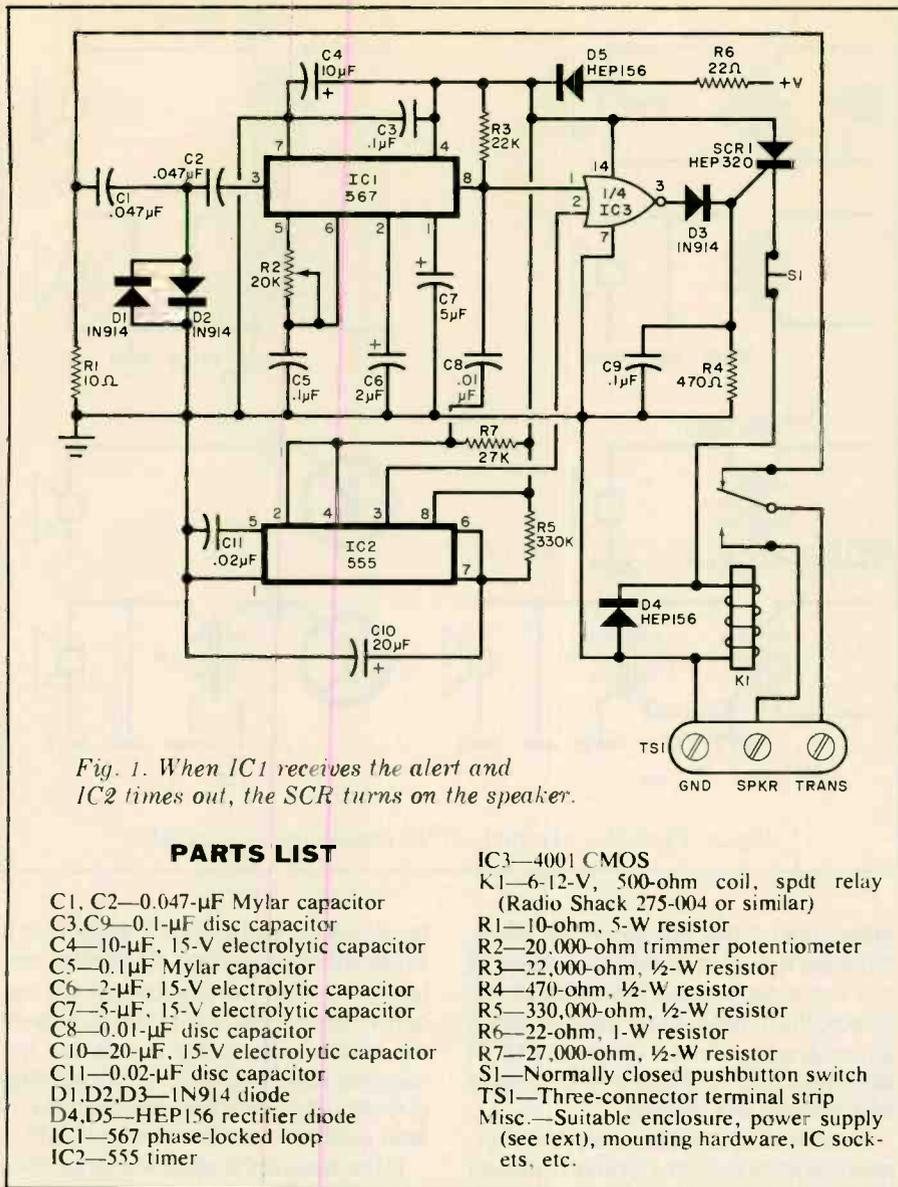

Fig. 1. When IC1 receives the alert and IC2 times out, the SCR turns on the speaker.
**Circuit Operation.** The circuit (Fig. 1) is essentially a controller for relay *K1*, whose normally open contacts are between the receiver audio output transformer (secondary) and the loudspeaker. Thus the speaker is normally disconnected and resistor *R1* provides a substitute load. Capacitor *C1* is used to isolate diodes *D1* and *D2*, which provide signal clipping to prevent overdrive of *IC1*. Capacitor *C2* isolates the diode clip-